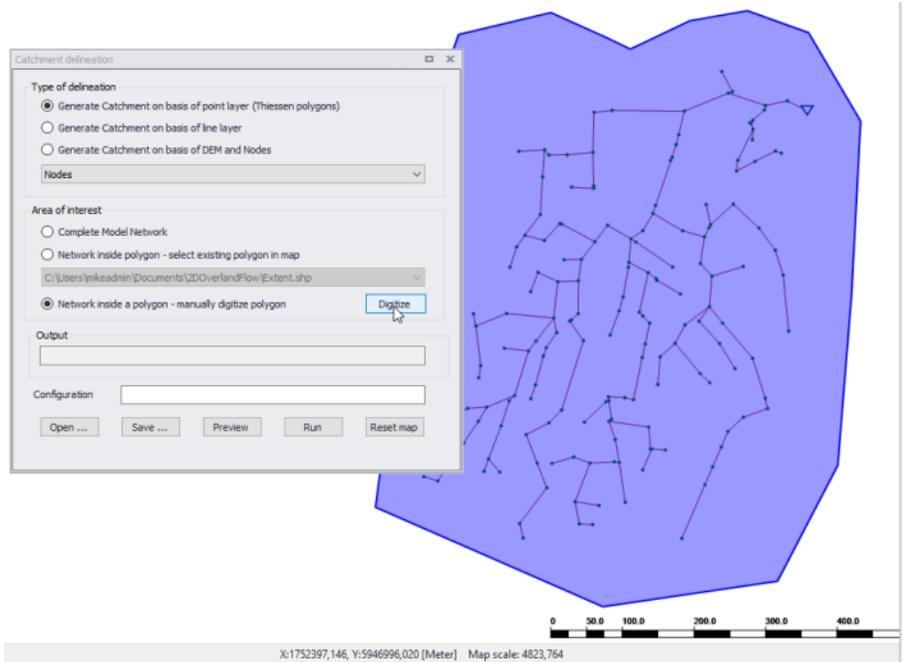

Figure 11.22 Digitizing the boundary on the map via the 'Digitize' button
- Network inside polygon - manually digitize polygon. Manually digitize the boundary on the map. If this method is selected, use the 'Digitize' button to draw the boundary directly on the map, ending the digitization with a double-click. See Figure 11.22.